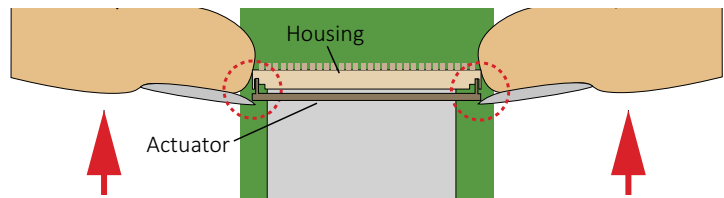

Figure 13: Closing the 22-pin FFC connector on SoMs
4. Carefully slide the actuator back to closed position (see Figure 13).